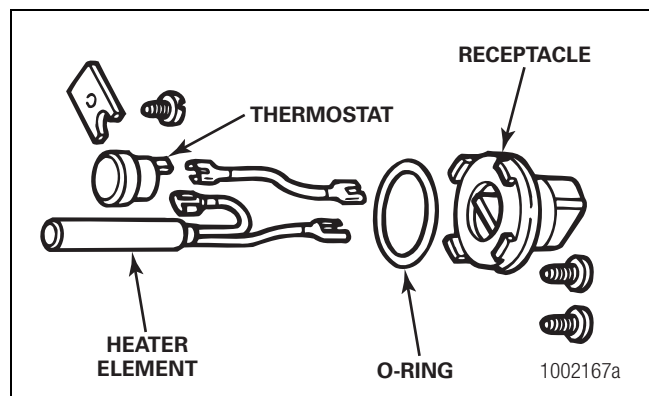

Figure 2.5
1. Review Figure 2.5 to ensure you have all of the parts required to replace the heater assembly.